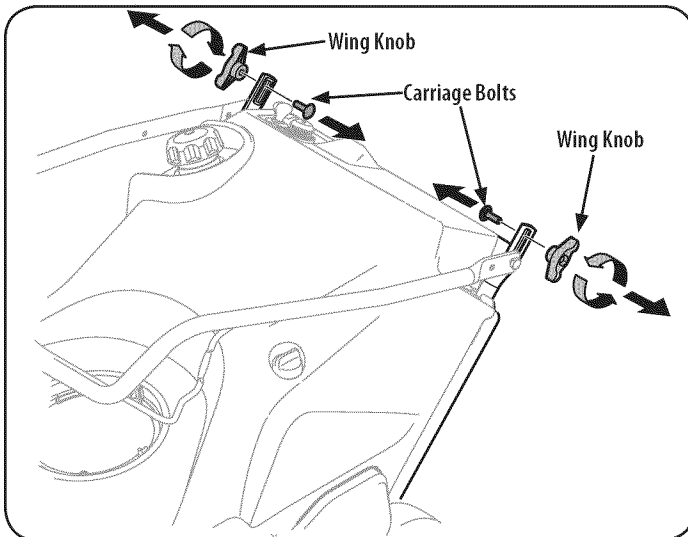

Figure 1
1. Remove the wing knob and carriage bolt from the top of the lower handle. See Figure 1. It is not necessary to remove the shoulder screw and flange lock nut below the wing knob and carriage bolt.